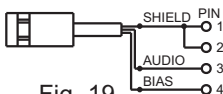

Fig. 19
2. 3-wire electret condenser microphone capsule connection, Fig. 19: